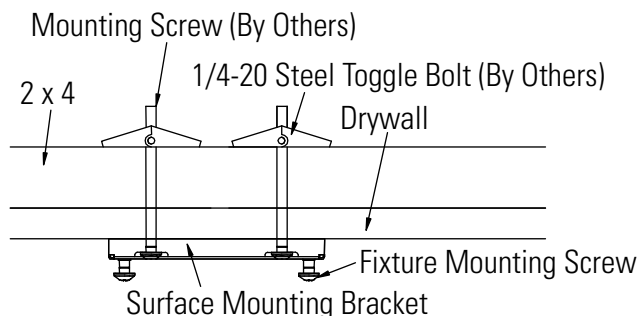

Figure 2
- C. Mount the surface bracket to the ceiling using toggle bolts going through the ceiling and a 2x4 cross beam. (Fig. 2)